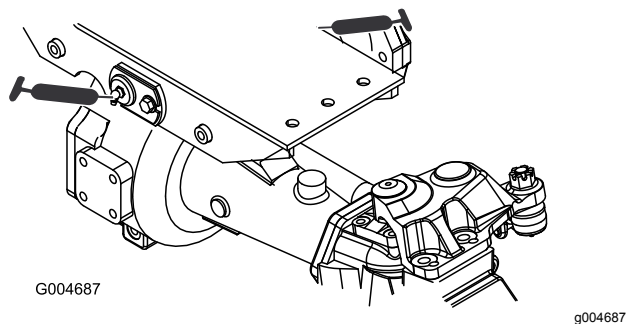

Figure 63
- 2 front and rear-axle-pivot bushings (Figure 63)